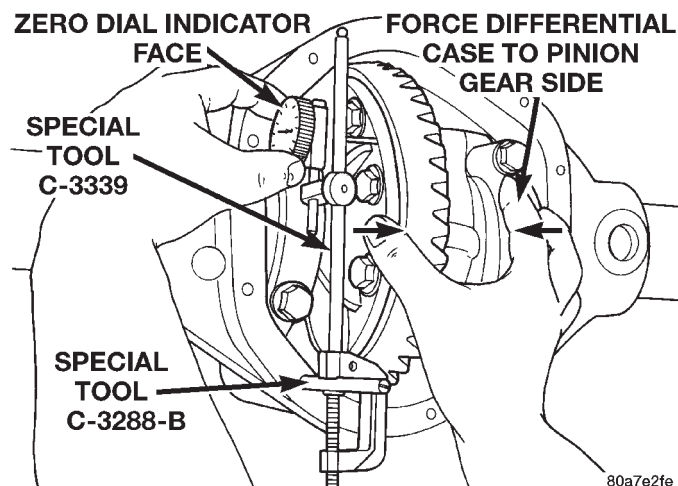

Fig. 72 Hold Differential Case and Zero Dial Indicator
- (10) Push and hold differential case to pinion gear side of axle housing (Fig. 72).
- (11) Zero dial indicator face to pointer (Fig. 72).